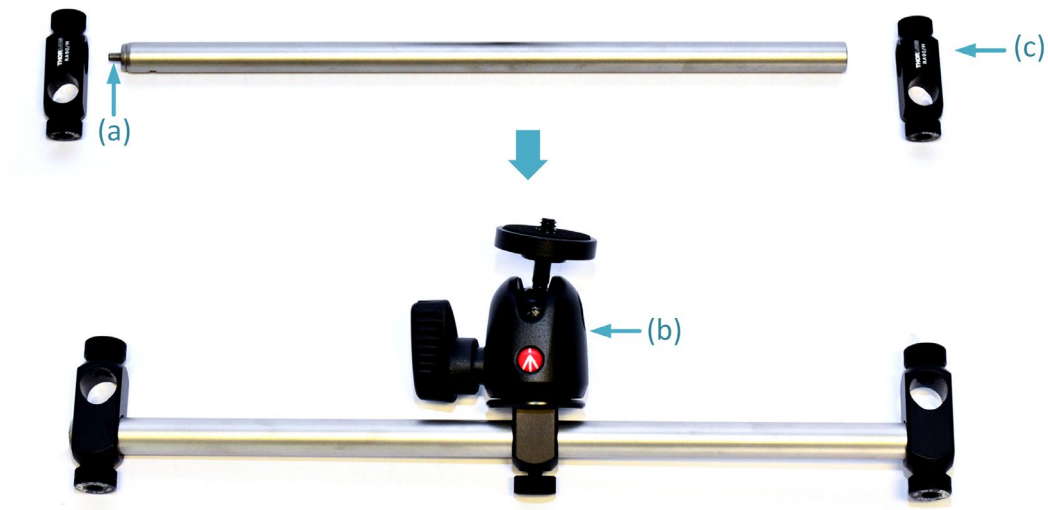

Figure 20 Assembly of the top post for camera mount (Step 3.4)
Step 3.4 Assemble the top road with tripod head (Figure 20)